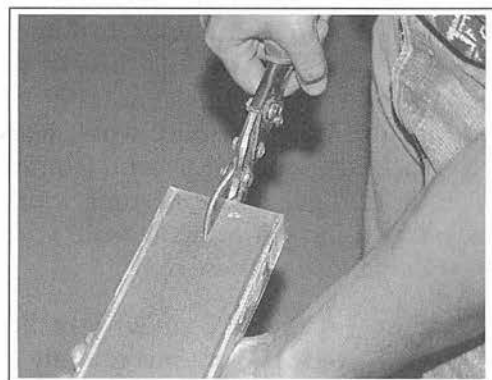

Figure 1-27. Cutting the slice in one end of a stick of 3⁵/₈-inch plate, using snips.
1. Using your snips, cut a 1-inch to 1½-inch-deep slice in the hard side (back) of the plate, as shown in Figure 1-27. Keep in mind that the cut for the splice is always made in the next piece of plate to be set in place.